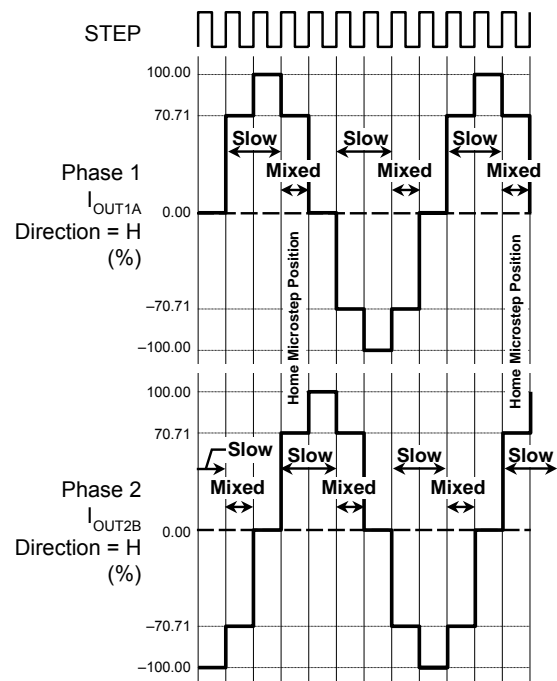

Figure 3. Decay Modes for Half-Step Increments
**Mixed Decay Operation.** The bridge can operate in Mixed Decay mode, depending on the step sequence, as shown in figures 3 thru 5. As the trip point is reached, the A3983 initially goes into a fast decay mode for  $31.25\%$  of the off-time,  $t_{\text{OFF}}$ . After that, it switches to Slow Decay mode for the remainder of  $t_{\text{OFF}}$ .